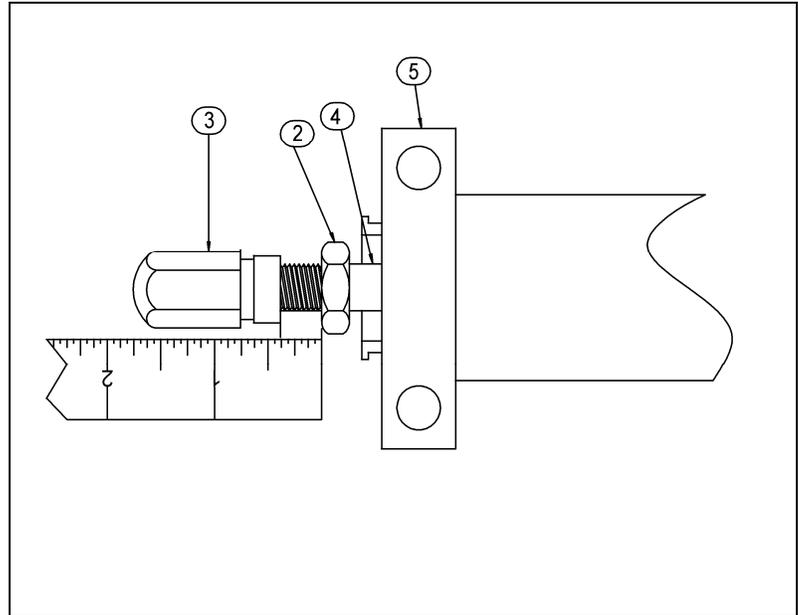

Figure 13: Distance - Adjusting Cap To Lock Nut
10. Turn the Adjusting Cap counterclockwise until the distance between the Adjusting Cap and the Lock Nut is close to $\frac{3}{8}$ ". (See Figure 13)